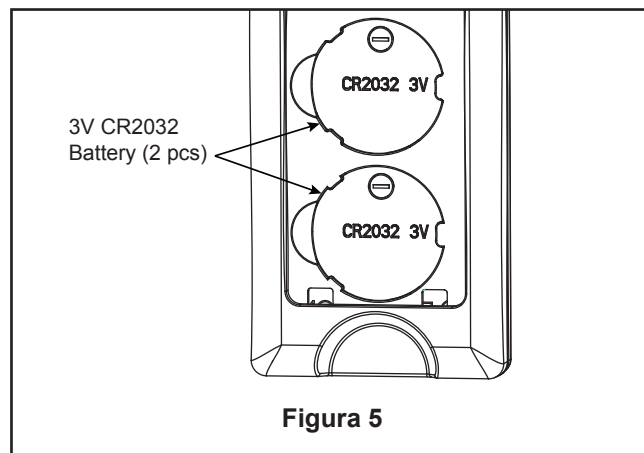

Figure 5
- ☐ 5. Install two 3V batteries in hand-held remote transmitter, with fan power off. (Figure 5)